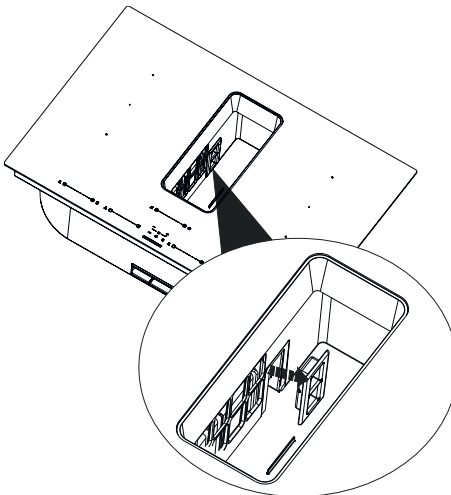

Fig. 6
2. Remove the active carbon filter lid (Fig. 6).